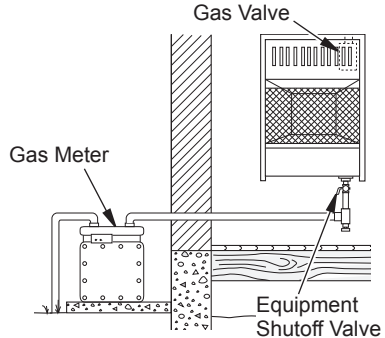

Figure 15 - Natural Gas Supply
3. Check all joints from gas meter to equipment shutoff valve (see Figure 15). Apply a noncorrosive leak detection fluid to all joints. If bubbles form, there is a leak.
4. Check all joints from equipment shutoff valve to control valve (see Figure 15). Apply a noncorrosive leak detection fluid to all joints. Bubbles forming show a leak.